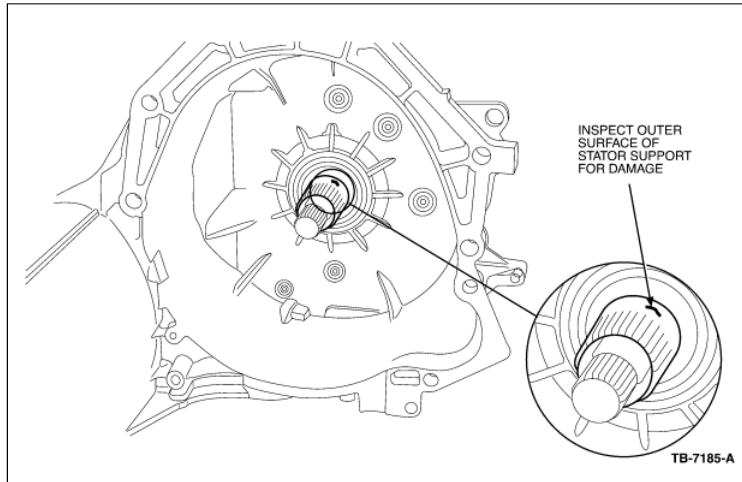

Figure 5 - Article 03-12-3
9. If cause for condition has not yet been identified, remove the transaxle and inspect the outer surface of the stator support for damage (Figure 5).
12. To verify the condition has been corrected, the drive cycle must be performed at least five (5) times (for drive cycle procedure refer to the appropriate Workshop Manual Section 307-01). The PCM will not set a torque converter clutch code until it fails to engage five (5) consecutive times.